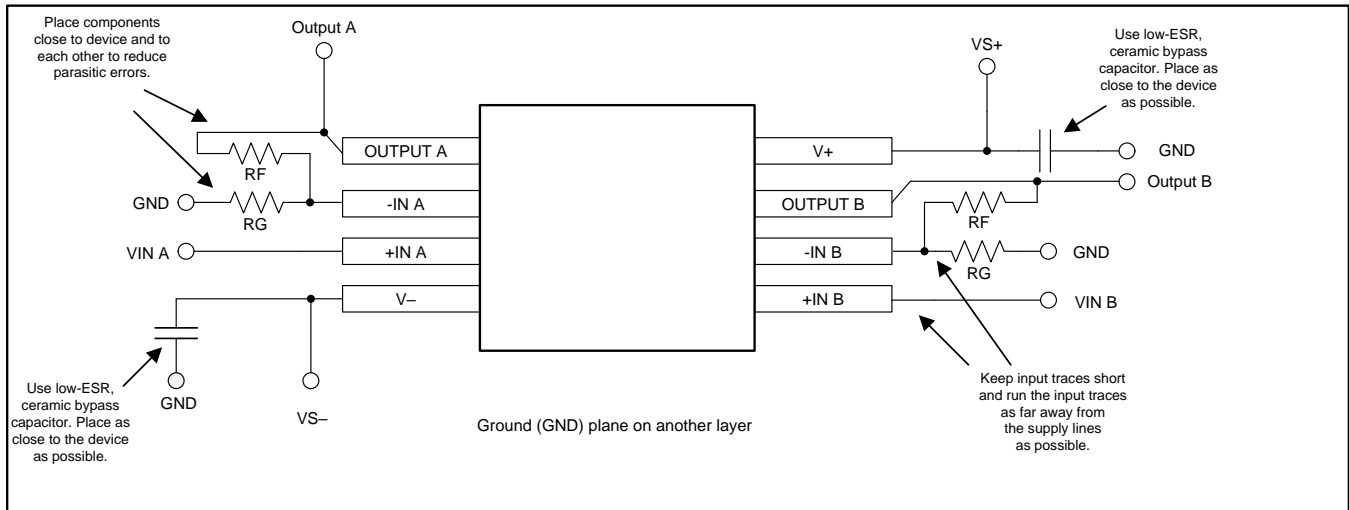

Figure 42. Operational Amplifier Board Layout for Noninverting Configuration
- Place the external components as close to the device as possible. As shown in Figure 42, keeping  $R_F$  and  $R_G$  close to the inverting input minimizes parasitic capacitance.